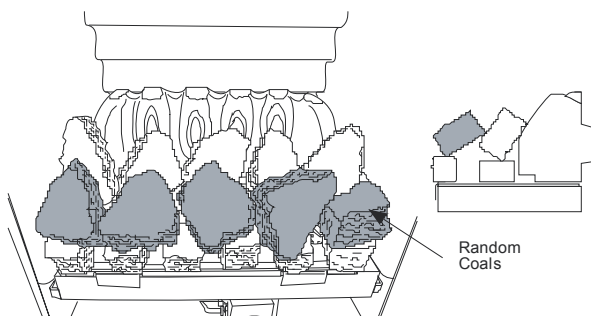
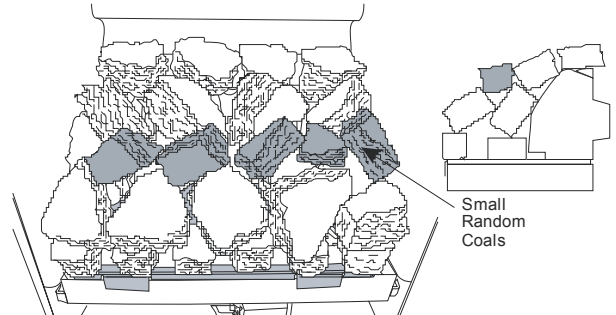

Figure 20
Figure 23
5. Continue laying the coals as shown in **Figure 20** to **Figure 23** ensuring that the coals are placed 'loosely'. Packing the coals too tightly together will result in a poor flame picture. The best results come from a 'loose' fuel build.